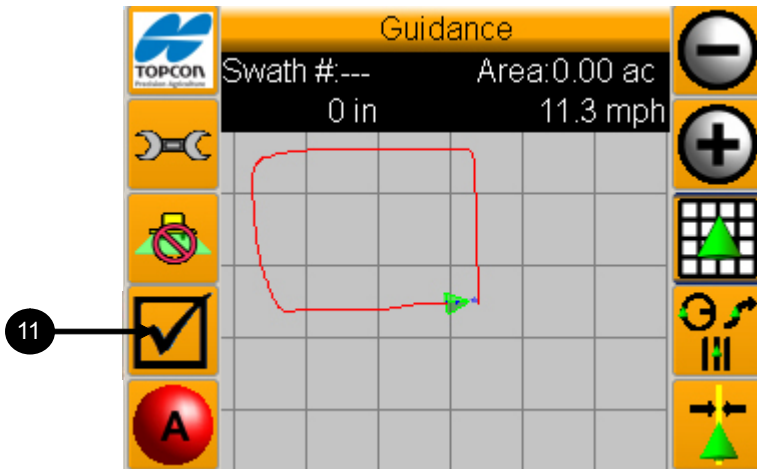

Figure 8-8. Boundary icon will change to tick icon
10. Watching the line on your screen, drive your vehicle around the boundary of your field until the lines are almost closed. When you near the starting point of your boundary, the boundary icon will change to this  (figure 8-8).